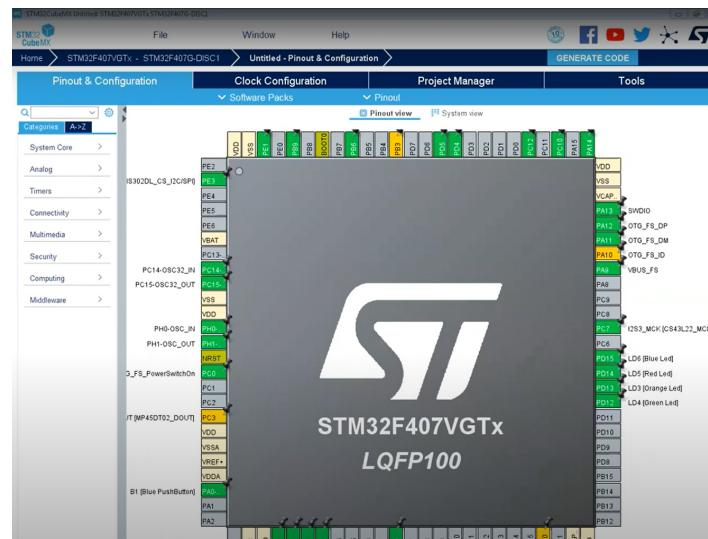
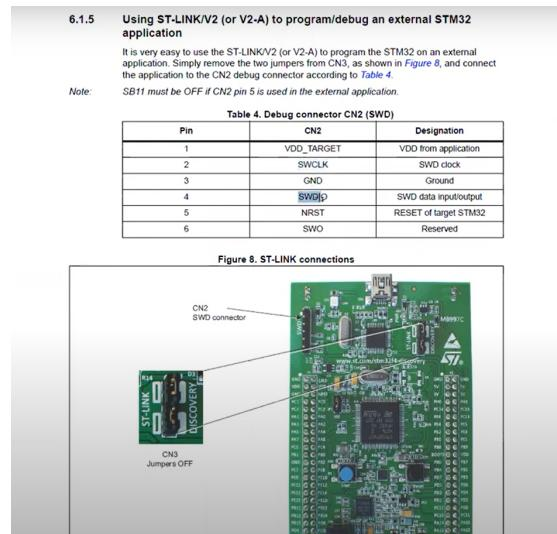

Figure 9
Figure 10
7. You will see a screen like Figure 9. Here we see the Microcontroller we will use. We can use it this way. However, in terms of power consumption and more stable operation, it will be better if we turn off the pins that we will not use in the lab. The green ones show the open pins and the gray ones show the reset state ones. In this lab, we will basically use push pull buttons and leds. So we can turn off the others. Which of these pins are can be understood by looking at the user manual. We should not close the pins that provide the connection between the microcontroller and the programmer. You can check which of these pins are in the user manual (Figure 10). We can do the closing and defining tasks of a pin by left-clicking on the pin. You completed the Pinout Configuration.